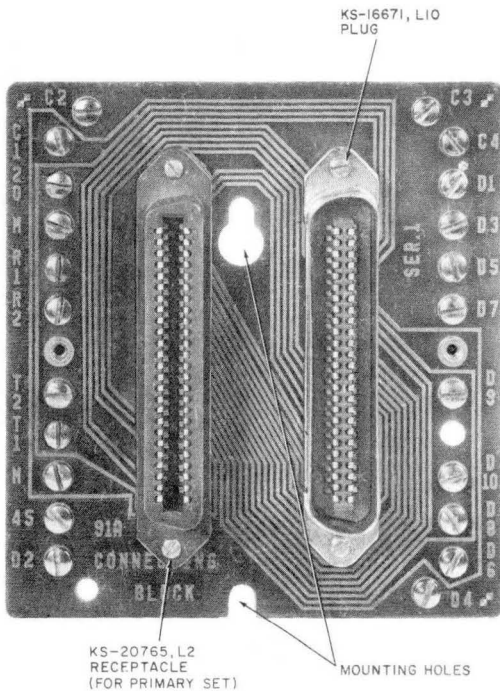

Fig. 11—91A (MD) Connecting Block
**3.04** In existing installations, 91A (MD) connecting blocks (Fig. 11) may be used to interface between primary sets and CO/PBX lines; it is permissible to reuse these blocks in other installations.